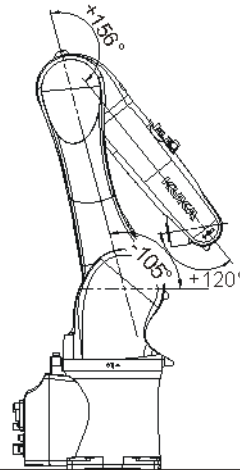

Fig. 11-3: Transport position
3. Put the robot into operation and move it into the transport position (>>> Fig. 11-3).